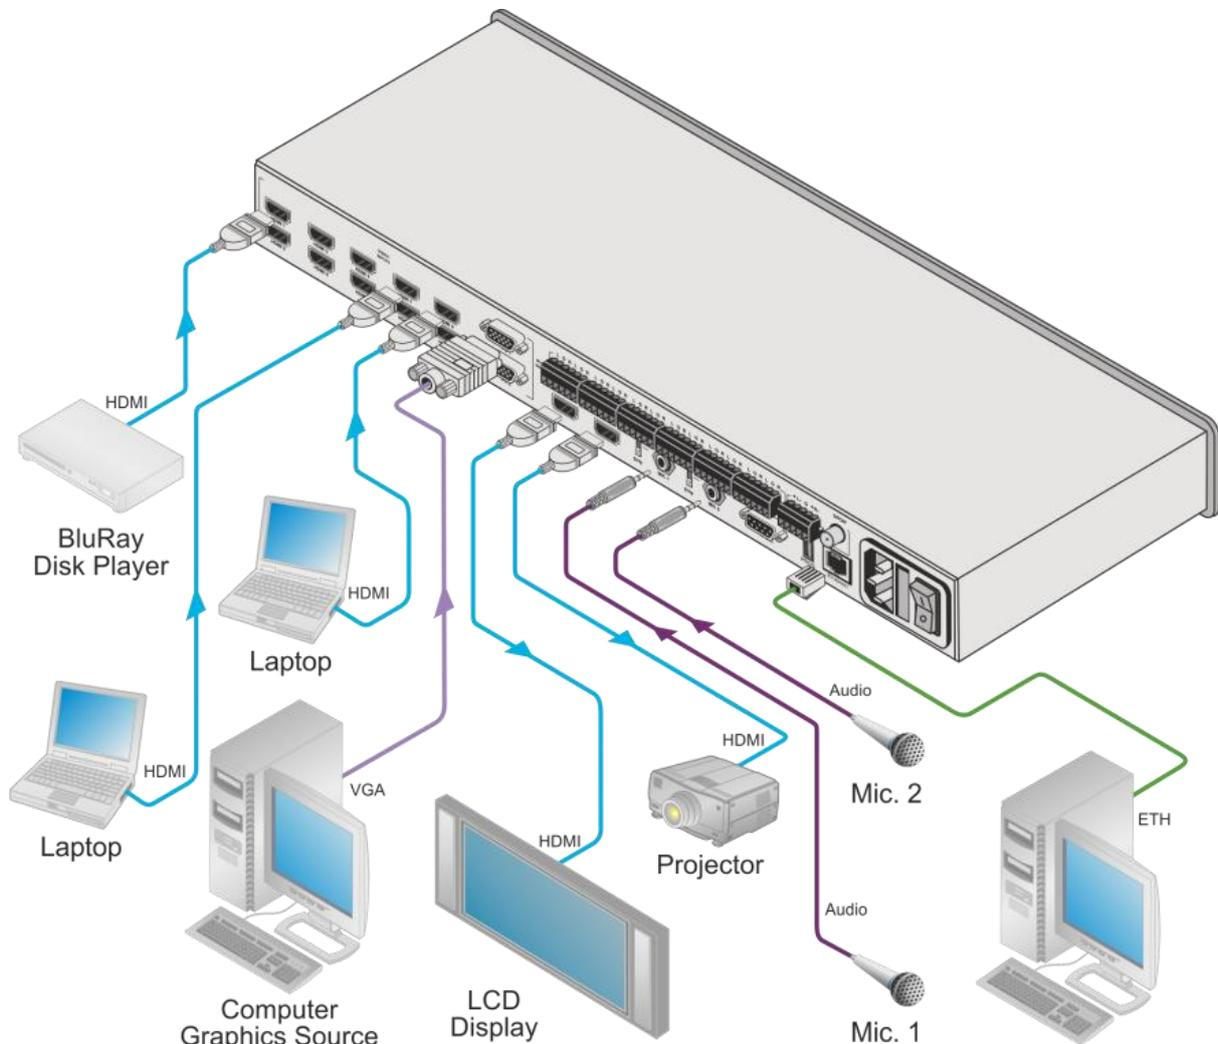

Figure 3: Connecting the **VP-444** Presentation Switcher / Scaler
To connect the **VP-444**, as illustrated in the example in Figure 3, do the following:
3. Connect the audio input signals to the AUDIO IN terminal block connectors, as required (not shown in Figure 3).
5. Connect the audio output signals to the OUT stereo analog audio acceptor and/or the digital audio acceptor, as required (not shown in Figure 3).
6. Connect the power cord (not shown in Figure 3).